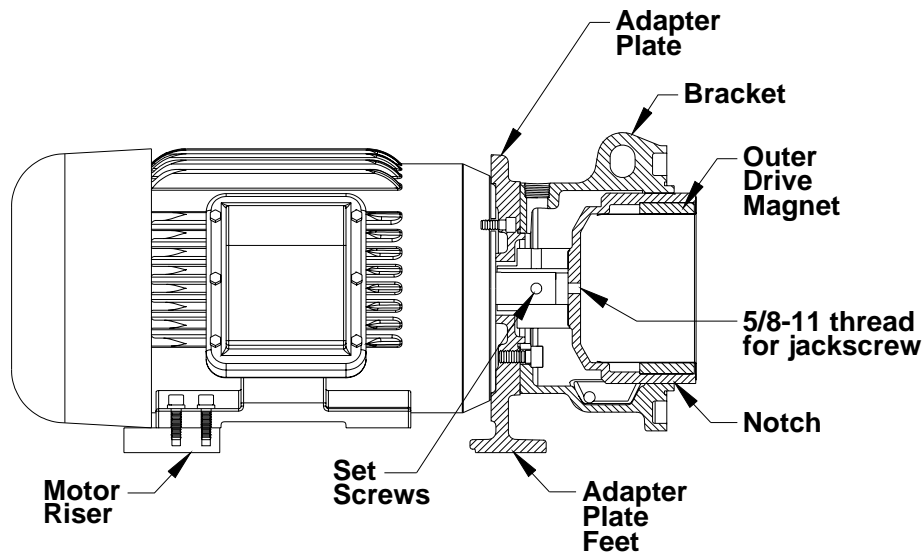

Fig. 9-1: DRIVE END ASSEMBLY, NEMA or IEC/JIS MOTORS
3. Slide the smaller end of the bracket over the motor shaft and onto the motor mounting plate. Secure the bracket with (4) 5/8"-11 x 1.75" (NEMA) or (4) 16 x 45 mm (IEC & JIS) hex bolts. **Torque to 80 ft-lb [110 N-m].**
4. Slide the outer drive into the bracket and onto the motor shaft, making sure that the shaft key is in place. The outer drive must be positioned so that the notch on its outer diameter aligns with the front face of the bracket. This will position the outer drive 1-1/16" from the bracket face as shown in Figure 9-1.
5. The outer drive hub is secured to the shaft with (3) 5/8-11 x 0.75" hex socket set screws, oriented 60° apart. A 5/16" hex key must be used to tighten the set screws. **Torque to 60 ft-lb [82 N-m].**